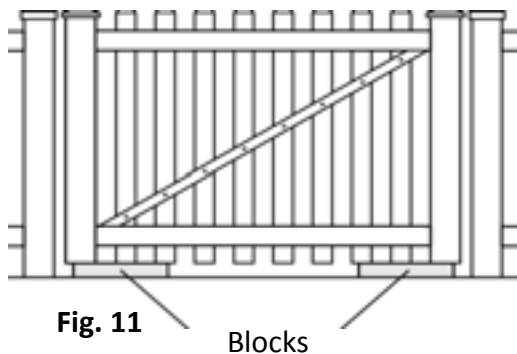

Fig. 11
**Step 1.** To ensure your gate is square and supported during the installation process, position your gate within the gate opening and place two 2" block supports (or similar support to line up gate horizontally) under the gate to hold it at the proper height, and level to line up with the rails of the fence (Fig. 11).